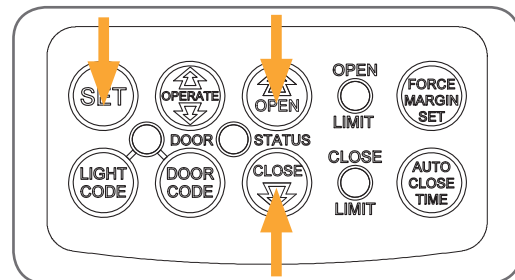

fig 12
- Press and hold the CLOSE button - the door should starting closing (**Fig. 12**).